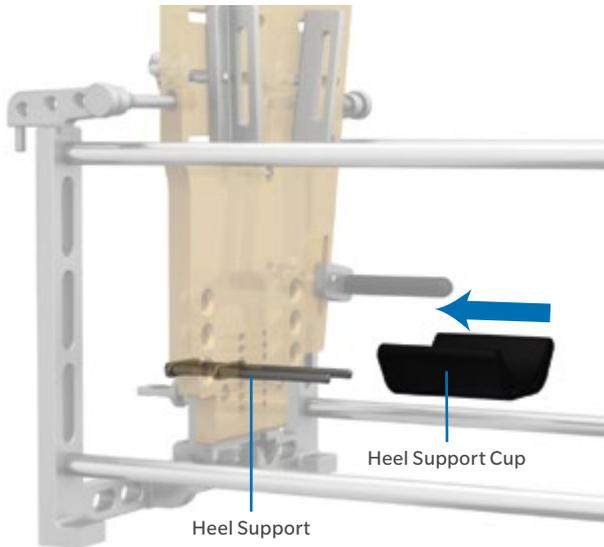

Fig. 10
- Slide the Heel Support Cup over the shafts from the inside of the Foot Plate (Fig. 10).